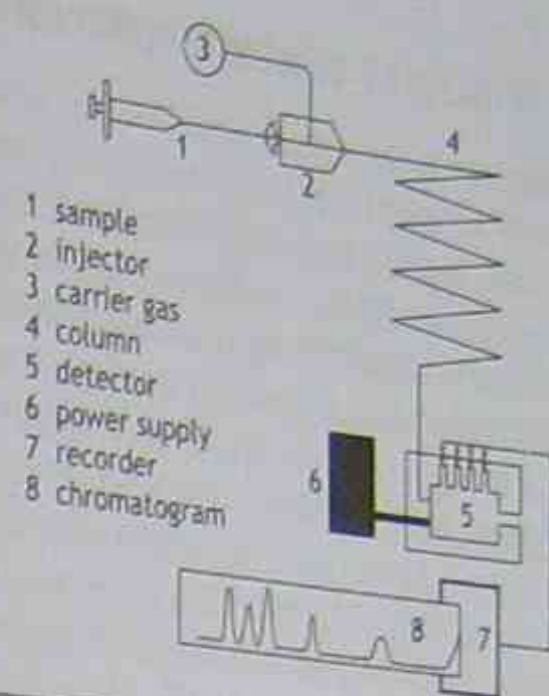

Figure 7.28 A simplified diagram for gas chromatography
As shown in Figure 7.28, a sample is introduced by syringe (1) into the heated injection chamber (2). A constant stream of nitrogen gas (3) flows through its injector, carrying the sample into the column (4) which contains a thin film of liquid. After the sample has been separated in the column, the carrier gas and separated components flow into the detector (5). Signals developed by the detector then activate a recorder (7) which traces a series of peaks on the chromatogram (8). The components present are identified by the elution time, and the peak area defines the concentration.